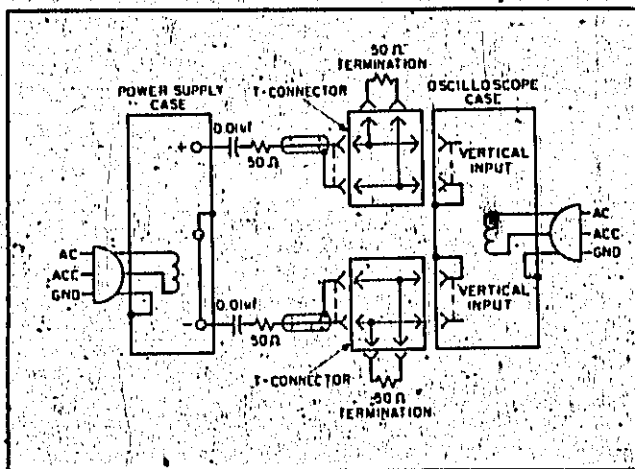

Figure 5-3. CV Noise Spike Test Setup
- a. As shown in Figure 5-3, two coax cables, must be substituted for the shielded two-wire cable.